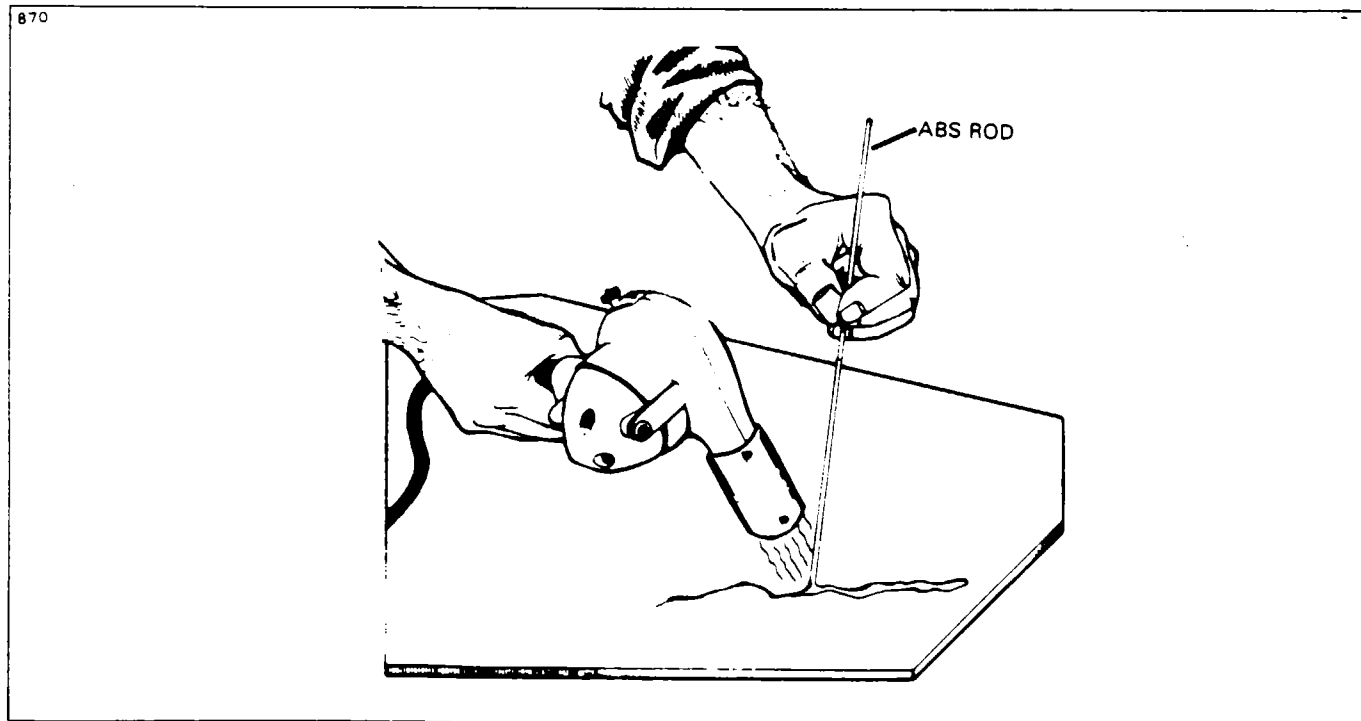

Figure 51-6. Welding Repair Method
J. This welding method requires a hot air gun and ABS rods. To weld, the gun should be held to direct the flow of hot air into the fusion (repair) zone, heating the damaged area and rod simultaneously. The gun should be moved continuously in a fanning motion to prevent discoloration of the material. Pressure must be maintained on the rod to insure good adhesion. (Refer to Figure 51-6.)